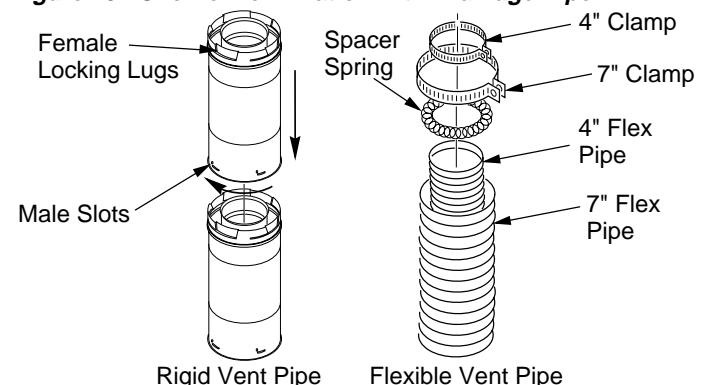

Figure 16 - Vent Pipe Connections
ing statement on page 9.) Push the pipe sections together and twist one section clockwise approximately one-quarter turn until the sections are fully locked. See Figure 16. **Note:** Horizontal runs of vent must be supported every three feet. Use wall straps for this purpose.
Flexible vent pipe must be installed with spacer springs every 12" (30.5cm). See Figure 16, page 10. All connections must be clamped tightly and sealed with high temperature silicone sealant as specified in the second warning statement on page 9.
2. Assemble the desired lengths of pipe and elbows necessary to reach from the fireplace flue up through the firestop. All connections must be sealed with high temperature silicone sealant as specified in the second warning statement on page 9. Be sure all pipe and elbow connections are fully twist-locked (see Figure 16, page 10).